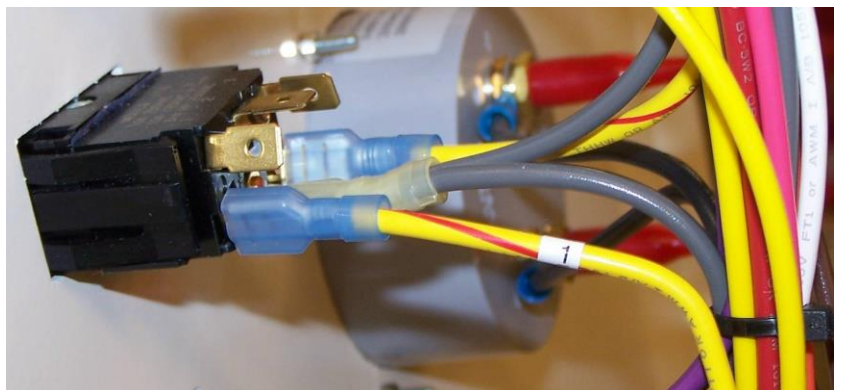

Figure 7
2. The Yellow/Red wire labeled #1 connects to the "AUTO/MAN" switch below the gray wire (Figure 7).